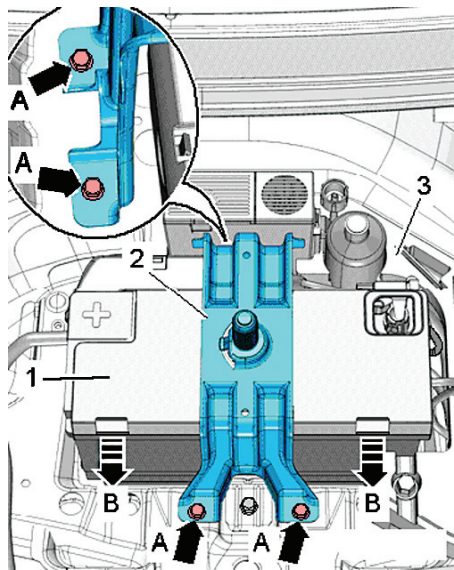

Fig. 2 Ground terminal cover removal. Version I
- a. Remove tool kit mount (3), **Fig. 2**.
- b. Remove bolts (A), **Fig. 2**.
- c. Remove retaining bracket (2) for vehicle tool kit cover, **Fig. 2**.
- d. Release retaining clips (B) using a screwdriver, and remove ground terminal cap (1), **Fig. 2**.
- a. Press ground terminal cover (1) onto battery, **Fig. 2**.
- b. Install retaining bracket (2) for vehicle tool kit cover, **Fig. 2**.